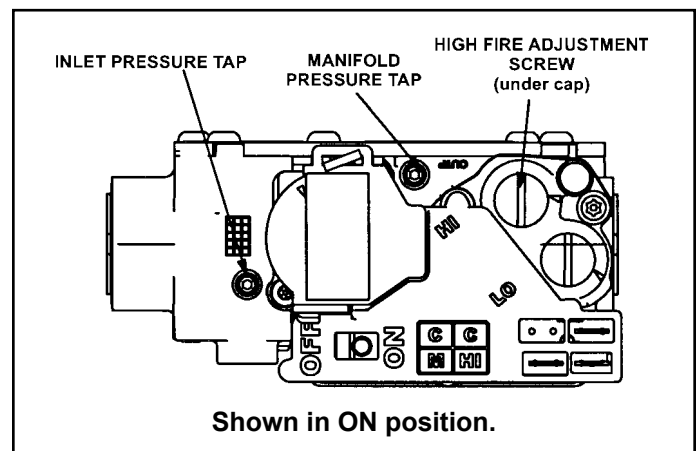

Figure 36. White Rodgers Gas Valve
See Figure 36
6. Move gas valve switch to OFF position. Do not force. See Figure 36.
7. Wait five (5) minutes to clear out any gas. If you then smell gas, **STOP!** Immediately call your gas supplier from a neighbor's phone. Follow the gas supplier's instructions. If you do not smell gas go to next step.
8. Move gas valve switch to ON position. Do not force. See Figure 36.
4. Move gas valve switch to OFF position. Do not force. See Figure 36.
An inlet post located on the gas valve provides access to the supply pressure. See Figure 36. Back out the 3/32 hex screw one turn, connect a piece of 5/16 tubing and connect to a manometer to measure supply pressure. See Table 25 for supply line pressure.
1. Connect test gauge to manifold pressure post tap (Figure 36) on gas valve.
4. If necessary, make adjustments. Figure 36 shows location of high fire adjustment screw.